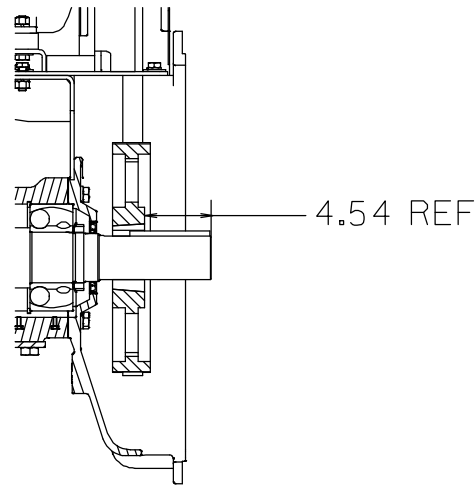

Figure 8. Drive Sprocket Positioning
Install the shaft key (30) in the shaft keyway. Slide the bushing and sprocket (8 and 9) onto the shaft to the dimension shown in Figure 8. Install the bushing setscrews and tighten the setscrews in an alternating sequence to secure the sprocket to the shaft. Torque the setscrews to 66.7 ft. lbs. (800 in. lbs. or 9,2 m. kg.).